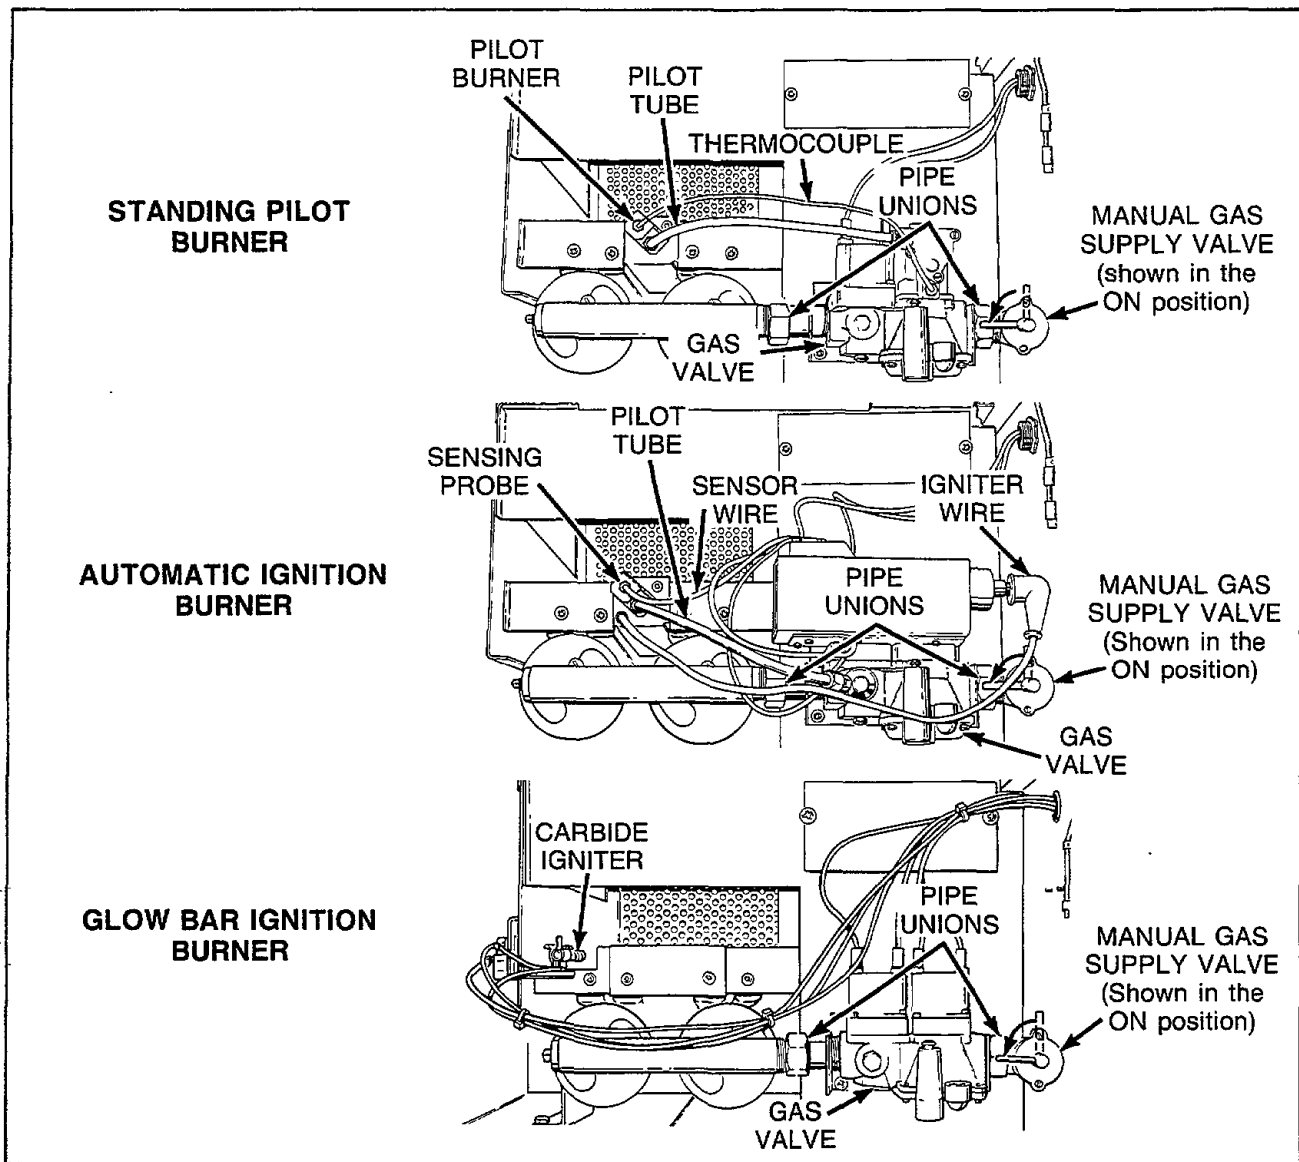

Figure 5
- a. Complete Gas Valve Assembly, Figure 5.
- (1) Unlock and open access door.
- (2) Remove control panel assembly, paragraph 1.